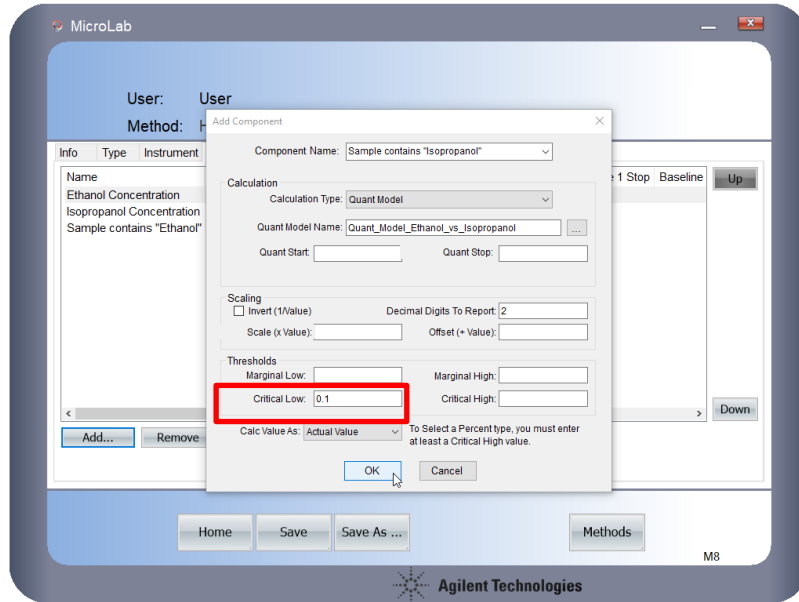

Figure 23. Isopropanol identification component parameters
- 8 Enter the same value entered in Step 10 in the "Add the ethanol identification component" section into the "Critical Low" field. We chose 0.1 for this example. See Figure 23 on Page 24.